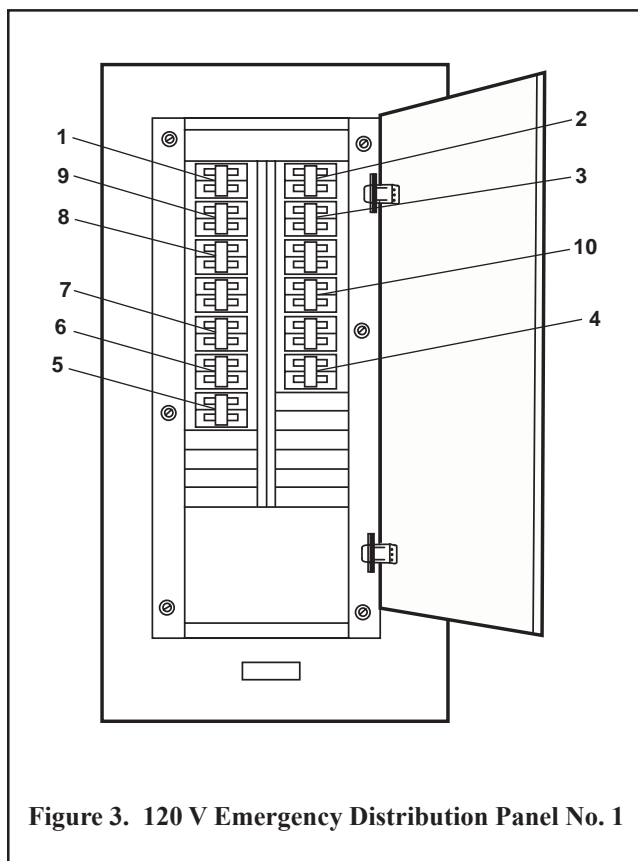

Figure 3. 120 V Emergency Distribution Panel No. 1
- (8) STEERING GEAR ROOM & TOWING GEAR LIGHT. (figure 3, item 8)
- (9) BOW THRUSTER & AMS No. 1. EMERGENCY LIGHTS. (figure 3, item 9)
- (10) FIRE DETECTION SYSTEM. (figure 3, item 10)